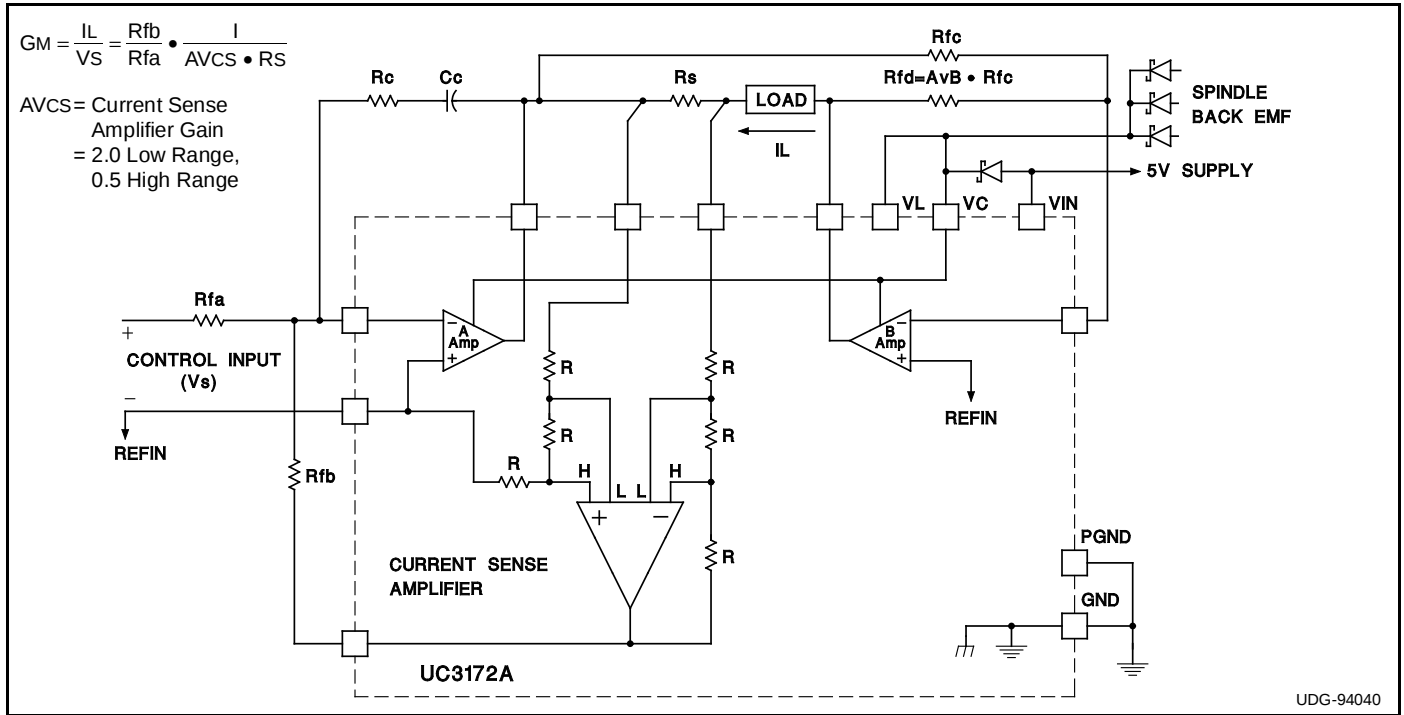

Figure 1. Typical Application
The following is a simple design flow that can be used to configure the UC3172A or UC3173A Full Bridge Power Amplifiers as shown in Figure 1.
- E. The normal configuration for compensation of the power amplifier is shown in Figure 1. A simple RC network, $R_C C_C$, around the A amplifier is all that is required.
In the closed loop transconductance amplifier, the A amplifier operates at the highest noise gain. Noise gain is a measure of the feedback ratio at which the amplifier is operating. For the configuration of the A amplifier in Figure 1, the noise gain is given by the impedance ratio of the R_C - C_C series network, to the parallel combination of R_{FA} and R_{FB} . For the A amplifier to operate at its expected closed loop gain, the noise gain at any frequency must not exceed its Gain Bandwidth Product (GBW) divided by that frequency. Applying this to the expression above will yield a result for the maximum 3dB bandwidth that can be achieved for a given configuration.